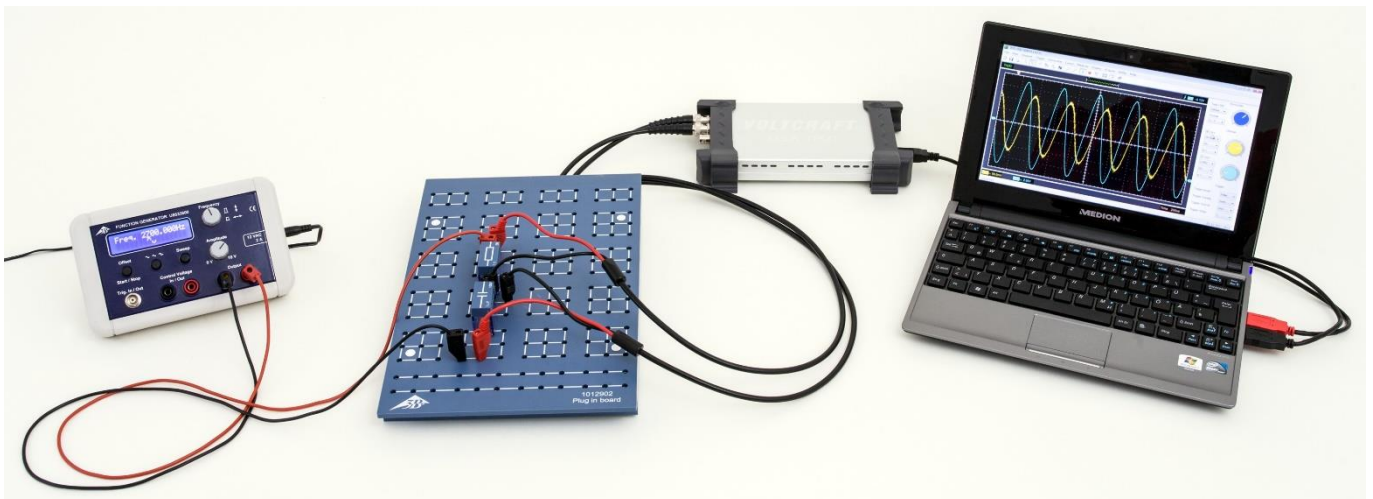

Fig. 1: Experiment set-up
- Set up the measuring equipment (Fig. 1) as shown in the circuit diagram (Fig. 2) with resistor $R=1\ \Omega$ and a capacitor $C = 1\ \mu\text{F}$.